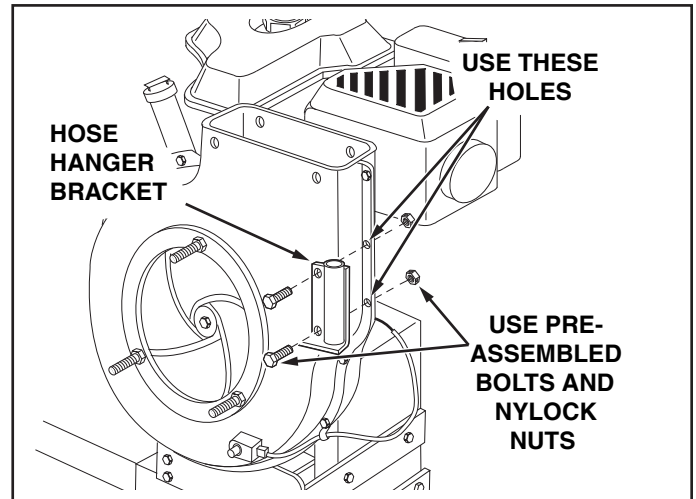

FIGURE 17
29. Remove the hex bolts and nylock nuts from the two holes in the impeller housing shown in figure 17. Assemble the hose hanger bracket to the impeller housing using the bolts and nylock nuts which you removed.